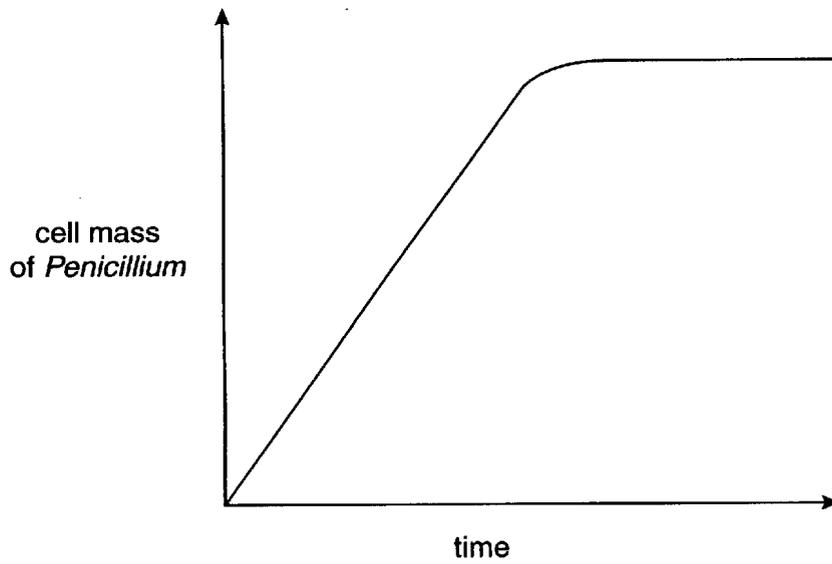

Fig. 4.2
(d) Fig. 4.2 shows changes in cell mass of the fungus *Penicillium* with time.
- (i) Mark an **X** on the curve of Fig. 4.2 to show when secondary metabolites are being produced by this microorganism. [1]